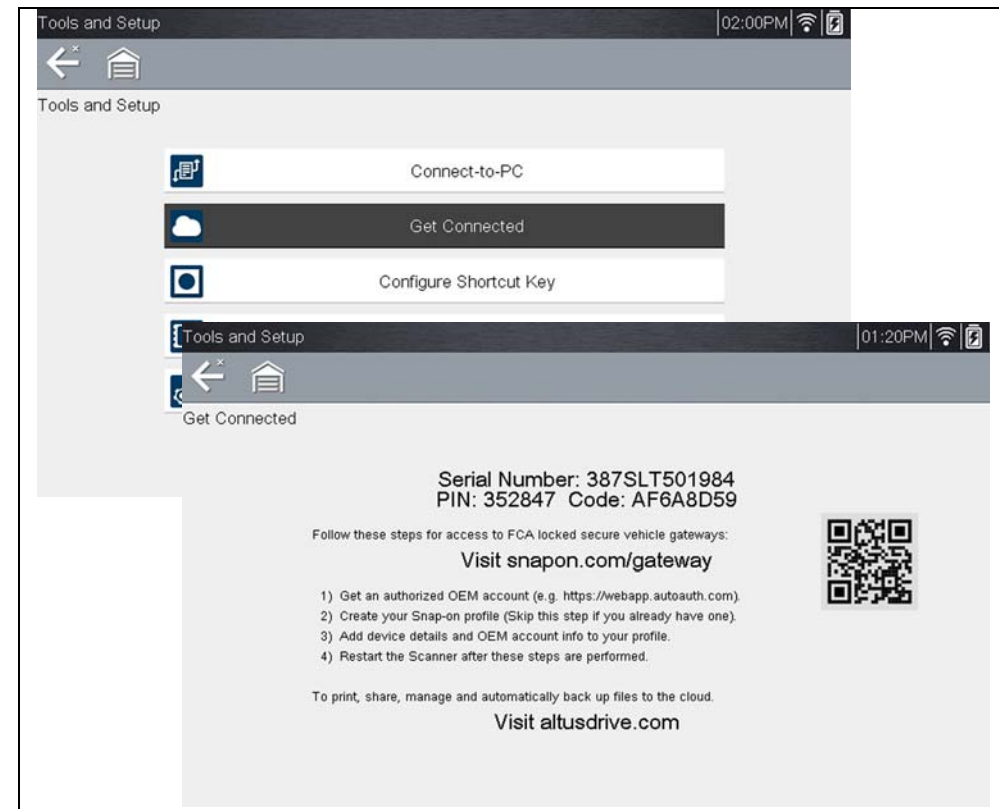

Figure 12-2
**Get Connected** allows you view (Figure 12-2) the diagnostic tool serial number, PIN and Code needed for Snap-on Cloud registration. See Snap-on Cloud on page 92 for more information.
*The PIN and Code numbers will change each time you view the Get Connected screen (Figure 12-2). This is normal, any displayed set of PIN and Code numbers may be used to register.*